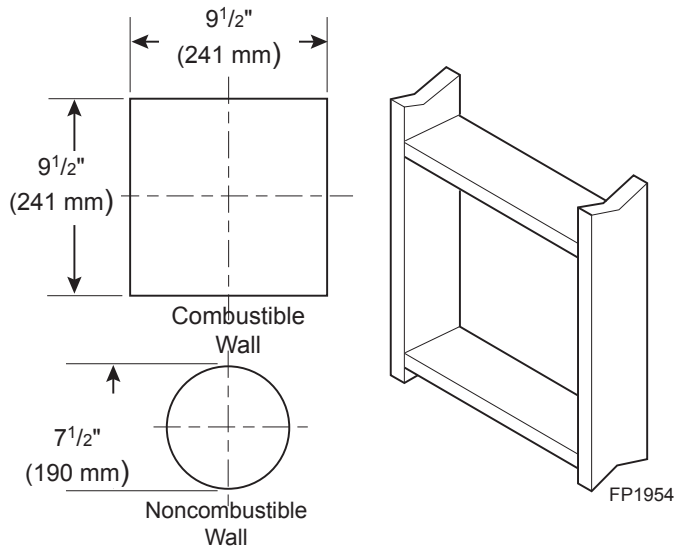

Figure 26 -
Combustible Exterior Walls: Cut a 9½"H x 9½"W square hole through the exterior wall frame. *Figure 26*
2. The center of the hole should line up with the center line of the horizontal rigid vent pipe end. Allow 1/4" minimum rise per foot. *Figure 26*